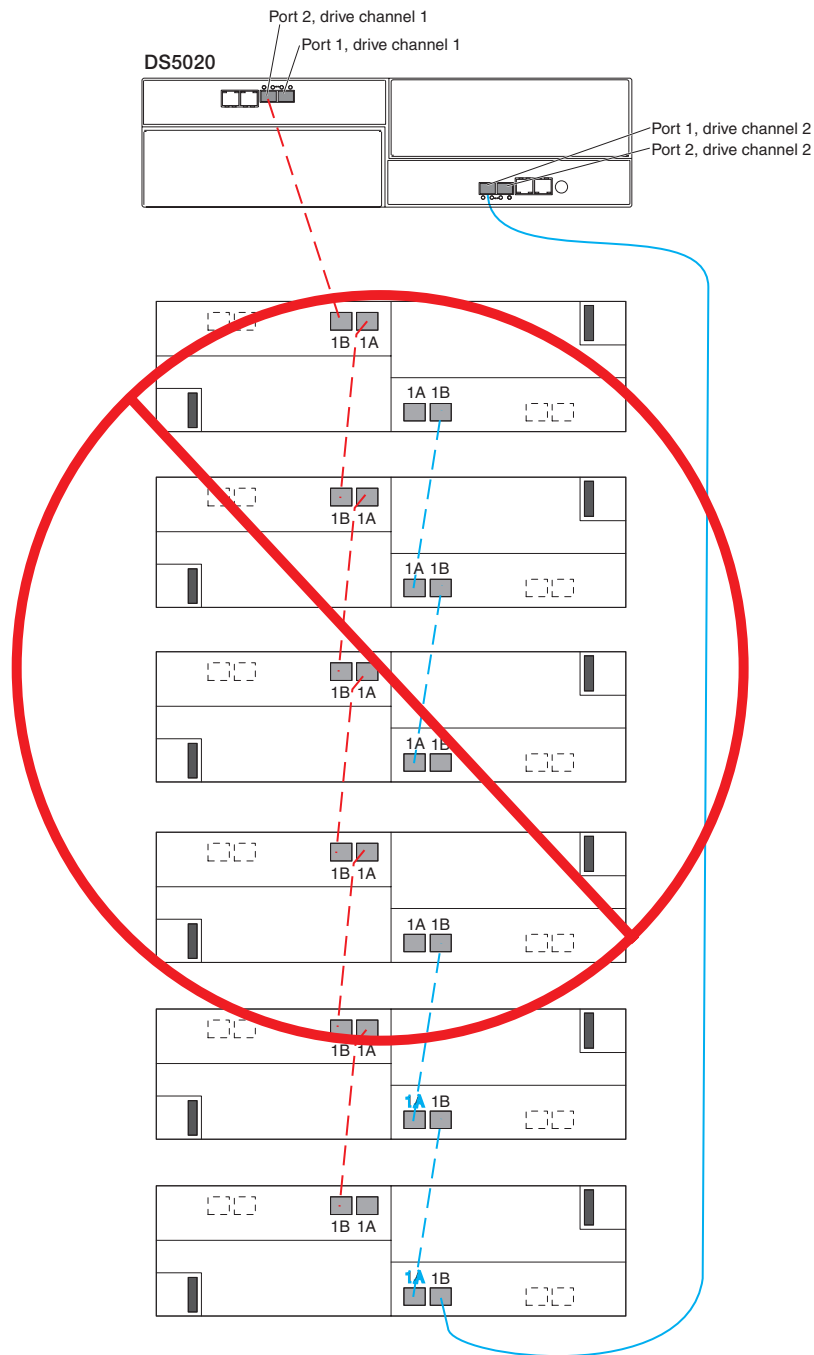

Figure 43. Cabling for one DS5020 and up to six storage expansion enclosures
Figure 43 on page 66 shows a cabling topology that is incorrect because all six storage expansion enclosures are connected to a single drive port of the dual-ported drive channel in each controller.
**Important:** Do not cable the storage subsystem and storage expansion enclosures as shown in Figure 43. A storage array with the incorrect storage topology might appear to be functional, but incorrect cabling can potentially have unpredictable results.